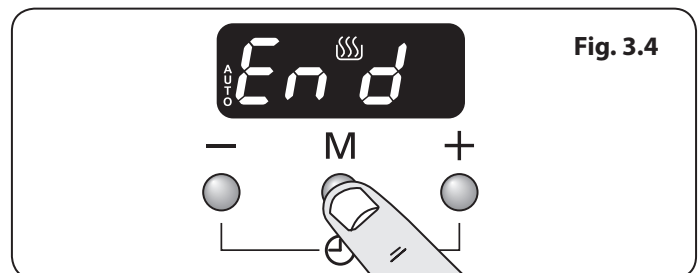

Fig. 3.4
1. Press the mode [M] button 3 times, until the display flashes 'End' (**Fig. 3.4**).